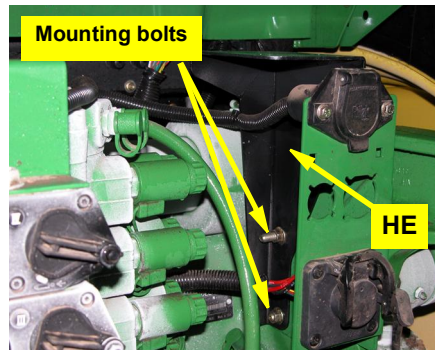

Figure 2a: Installed steering block bracket
- a. Locate the two bolts securing the trailer-wiring bracket to the rear casting of the tractor. Using these two bolts install the hydraulic mounting bracket **HE** onto the tractor casting (Figure 2a).